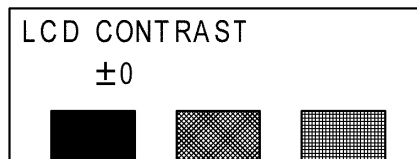

Fig. 13
- (4) Press the "RET" key. The display shifts to the LCD Contrast Set Mode as shown in Fig. 13.